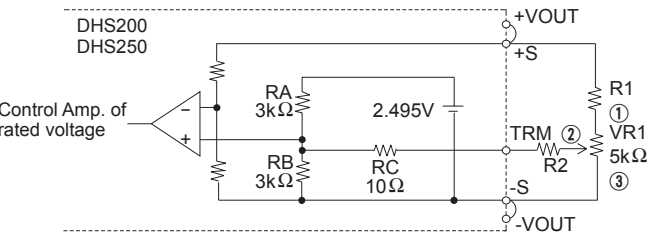

Fig. 4.6 Connecting External Parts (DHS250)
(1) Output voltage adjusting
- Output voltage can be adjusted by connecting an external potentiometer (VR1) and resistors (R1 and R2) as shown in Fig. 4.6. Output voltage will increase if the resistance between ① and ② is reduced by turning the potentiometer clockwise.